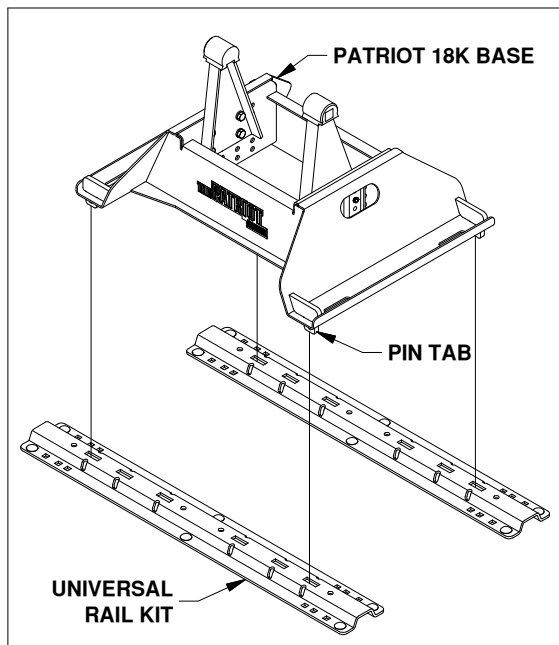

Figure B1: Rail attachment.
1. **Place base.** The base will mount to a rail kit in the truck bed. Remove any debris and/or obstructions from the bed. Position the base over the rail attachment points. Carefully lower it until the pin tabs pass through the attachment points and the base rests flat against the top of the rails, see Figure B1.